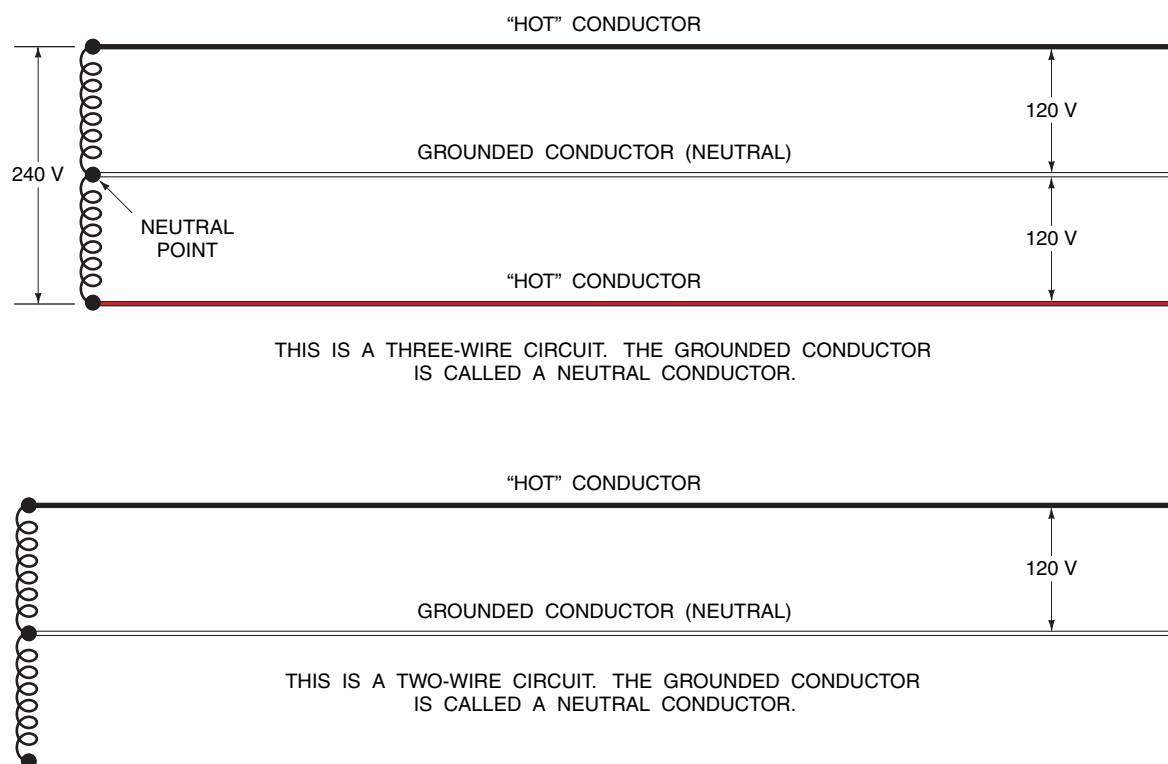

Figure 5-1 Definition of a neutral conductor.
► **Neutral Conductor.** “The conductor connected to the neutral point of a system that is intended to carry current under normal conditions.” See Figure 5-1. ◀
► **Neutral Point.** “The common point on a wye-connection in a polyphase system or midpoint on a single-phase, 3-wire system, or midpoint of a single-phase portion of a 3-phase delta system, or a midpoint of a 3-wire, direct current system.” See Figure 5-1. ◀
By these definitions, the white grounded conductor in a 2-wire circuit is a neutral conductor. In a multiwire 3-wire branch circuit, the white grounded conductor is a neutral conductor. See Figure 5-1.